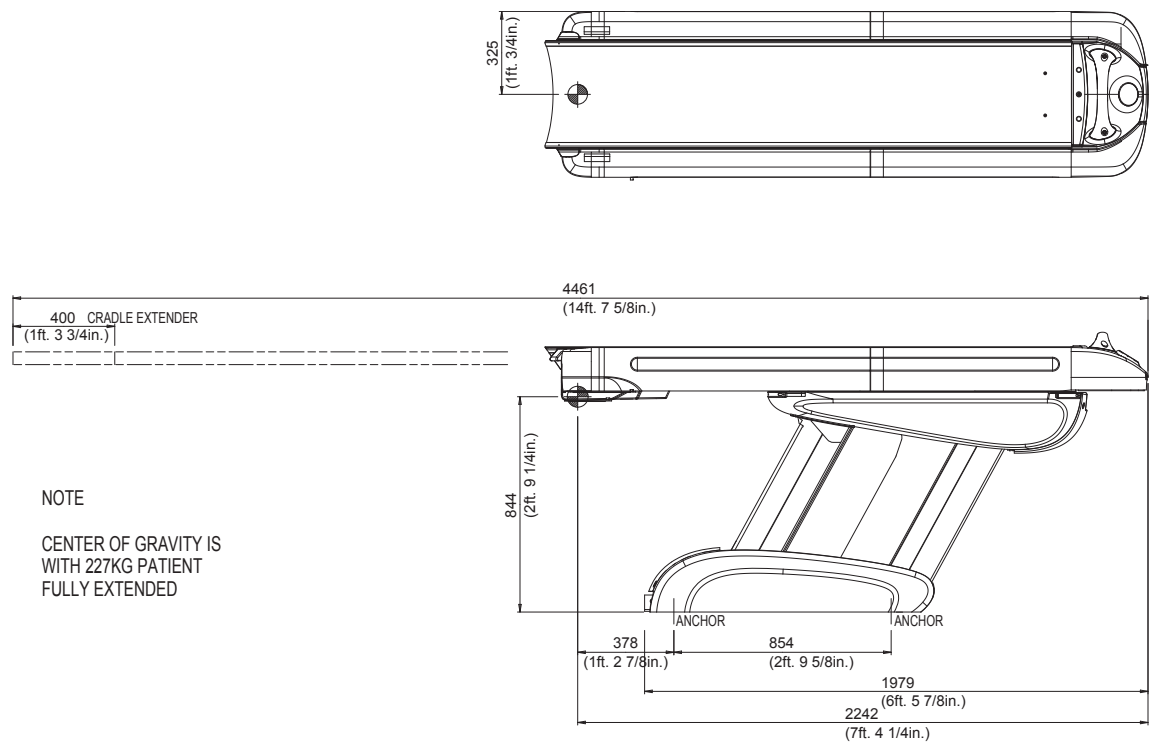
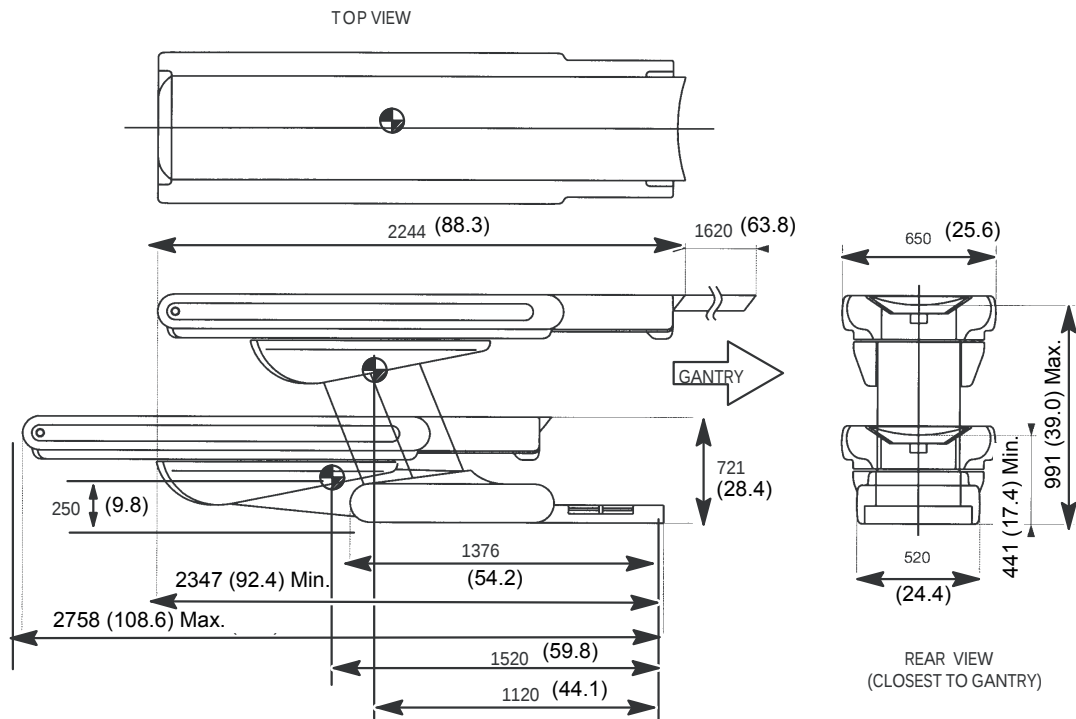

Figure 8-11 GT1700V Center-of-Gravity
Figure 8-13 Lite Table Center-of-Gravity
- Table: Figure 8-11 ~ Figure 8-13